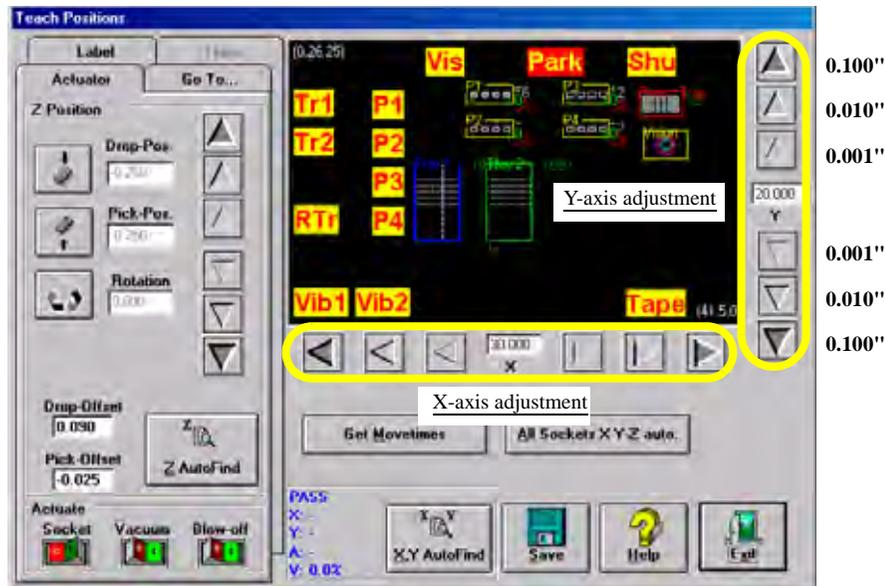

Figure 3-47—Graphic representation of work envelope
- 1g) On the System window, click **Gantry** to display a graphic representation of the work surface, including yellow position labels for all locations in the work envelope. The Gantry window also includes Y-axis and X-axis adjustment arrows. See *Figure 3-47*.
- 2a) Adjust the location of the probe tip so that it is centered on the device. Use the up/down arrows for Y-axis adjustments and the left/right arrows for X-axis adjustments. From the inside working outward, the arrow buttons adjust the position  $\pm 0.001$ , 0.010, and 0.100 inches respectively. See Figure 3-47.